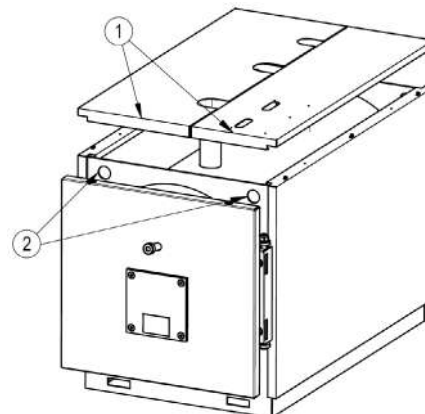

fig. 5
5.2.1 Para modelos **PREXTHERM RSH 100N+420N** (Fig. 5)